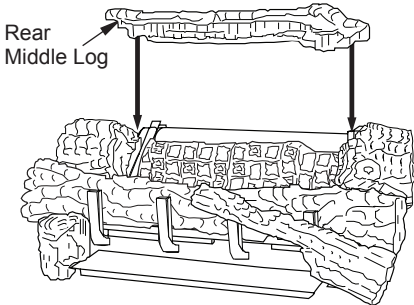

Figure 44 - Installing Rear Middle Log
8. The rear middle log (18" D-068, 24" & 30" D-042) should fit between the ramp log and the rear burner. The left and right middle logs have recessed areas for the rear middle log to sit into (See Figure 44). There may be a small gap between the rear middle log and the ramp log, this is normal. Be careful not to push the rear burner out of position while installing this log.